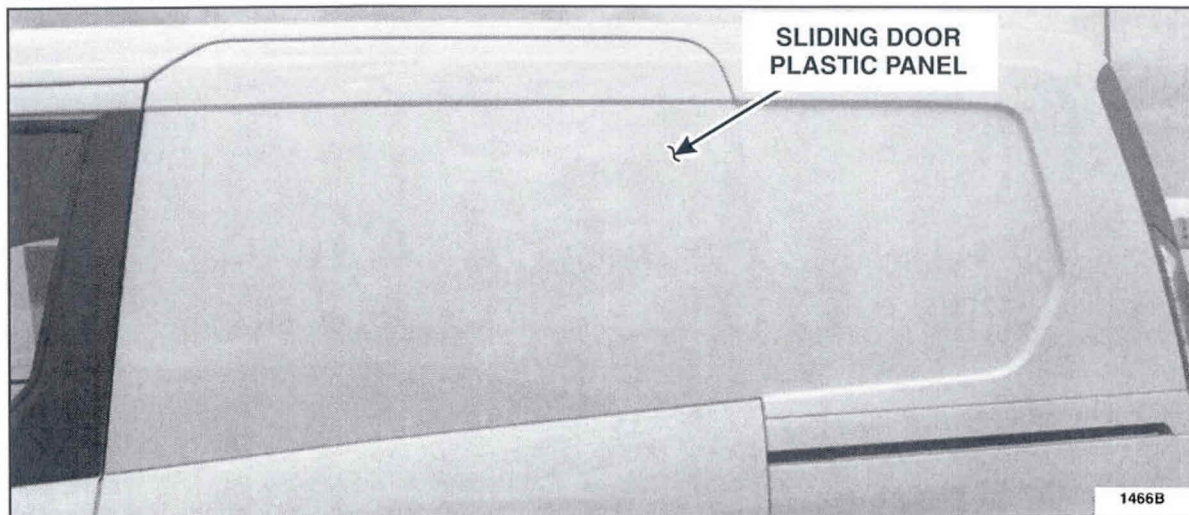

FIGURE 1
1. Remove the plastic panel. Please follow Workshop Manual (WSM) procedures in Section 501-11, General Procedures - Fixed Glass. See Figure 1.